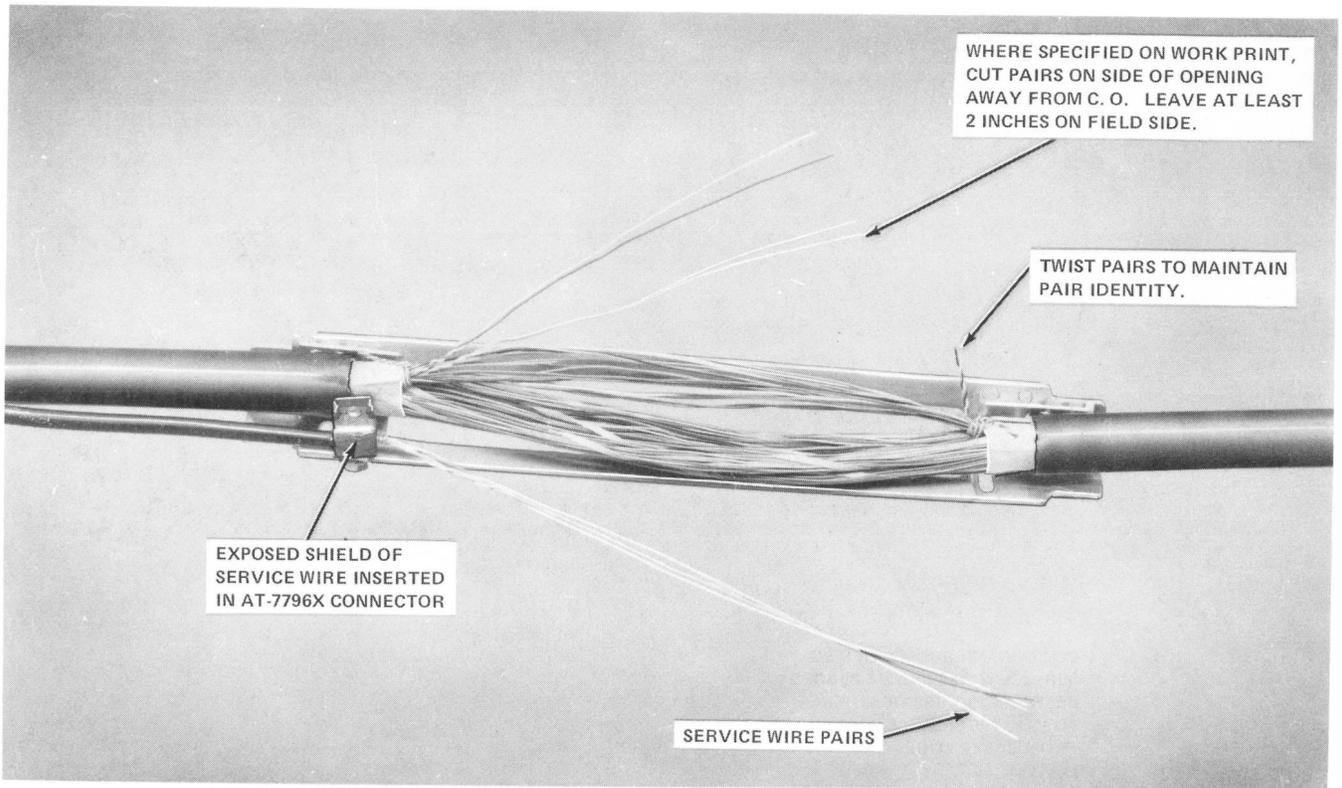

Fig. 10—▶Metallic Shield of Service Wire Installed in AT-7796X Connector—16A1 Closure◀
5.02 Install the metallic shield of the filled service wire in the AT-7796X connector as shown in Fig. 10 and tighten the screw.